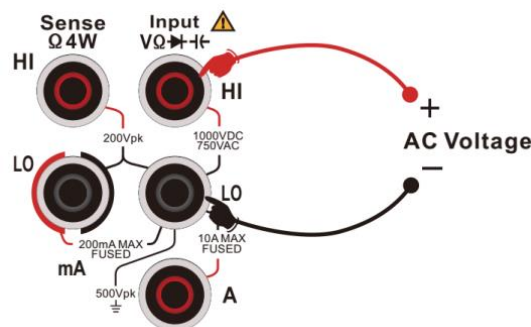

Figure 2-22 Connection of signal cycle measurement
2) Connect the test leads to the measured signal as figure 2-22, connect the red test lead to the terminal Input-HI, and the black one to terminal Input-LO.